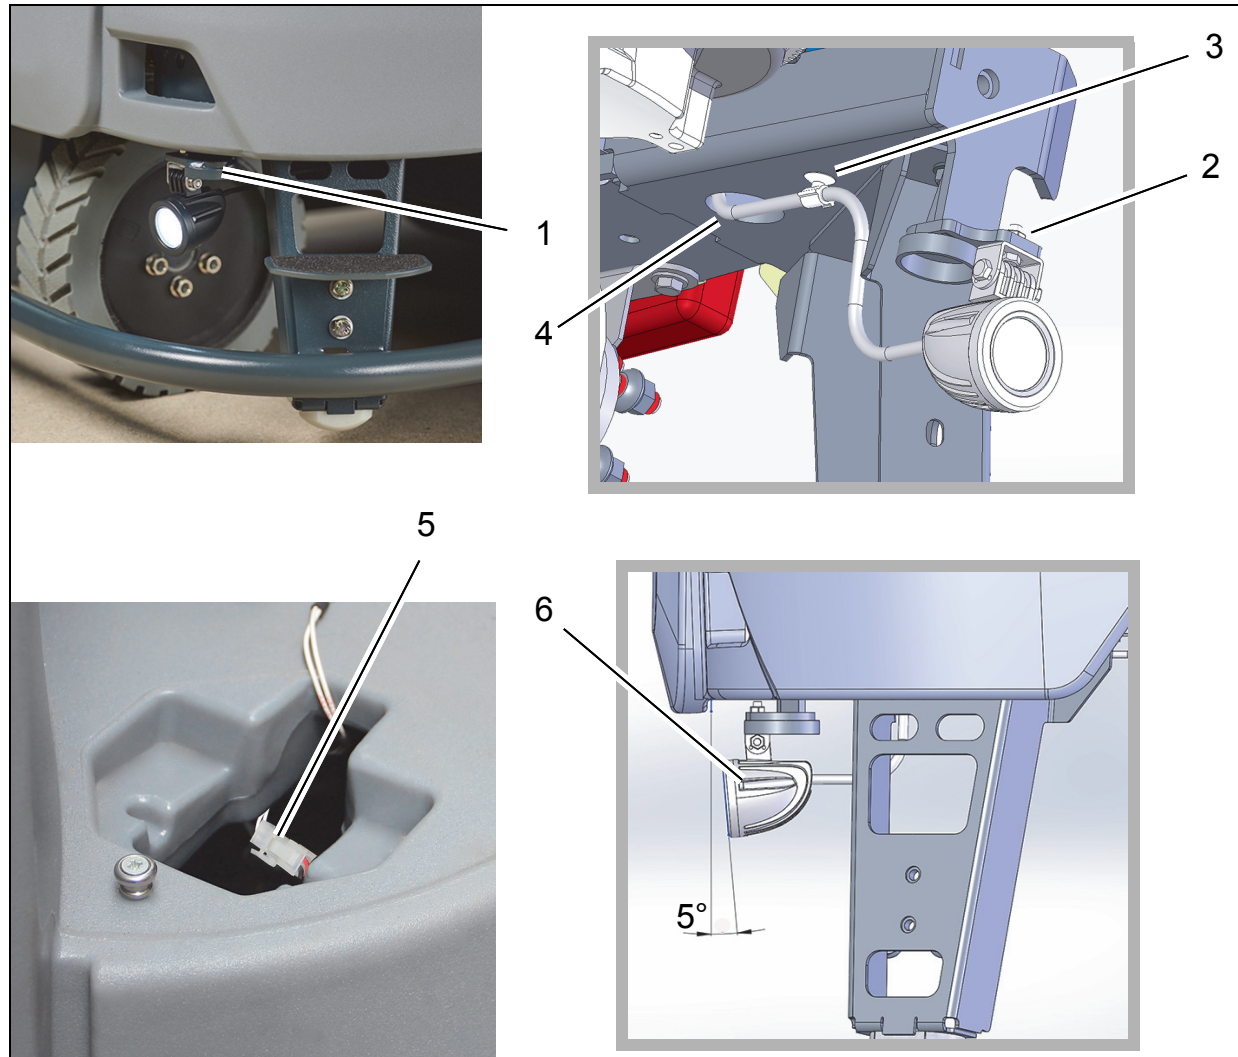

Fig. 2
The working light is installed on the left next to the front wheel (Fig. 2/1).
1. Fit working light to holder of chassis (Fig. 2/2).
2. Insert corrugated hose holder into existing hole (Fig. 2/3).
4. Lead cable through floor opening into the interior (Fig. 2/4).
5. Connect plug of working light to 2-pin connector E01 of cable loom W 3 (Fig. 2/5).
Set tilt angle to approx  $5^{\circ}$  (Fig. 2/6).